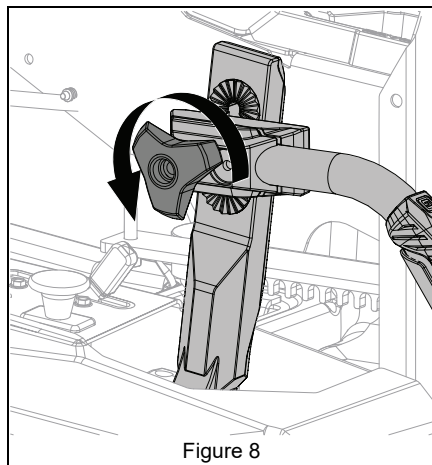

Figure 8
3. Loosen knob from steering lever. See Figure 8.